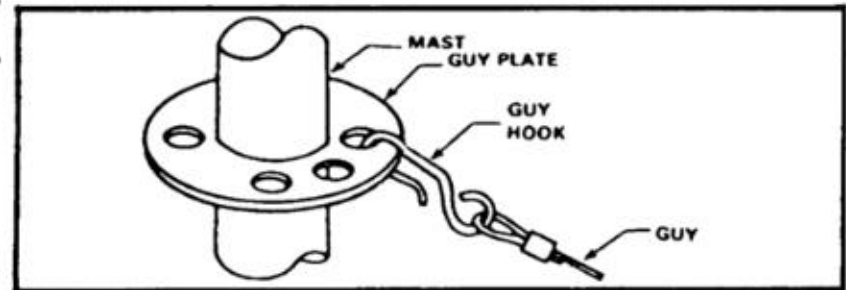
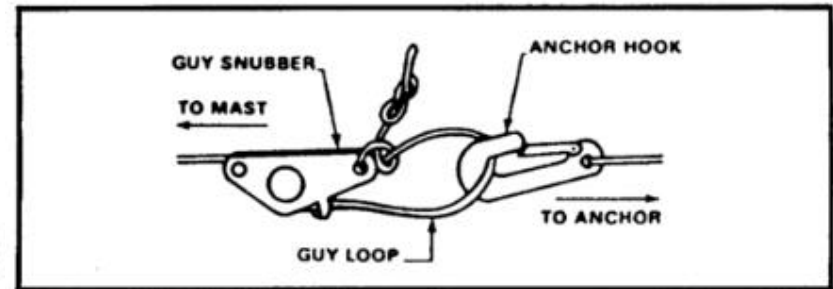
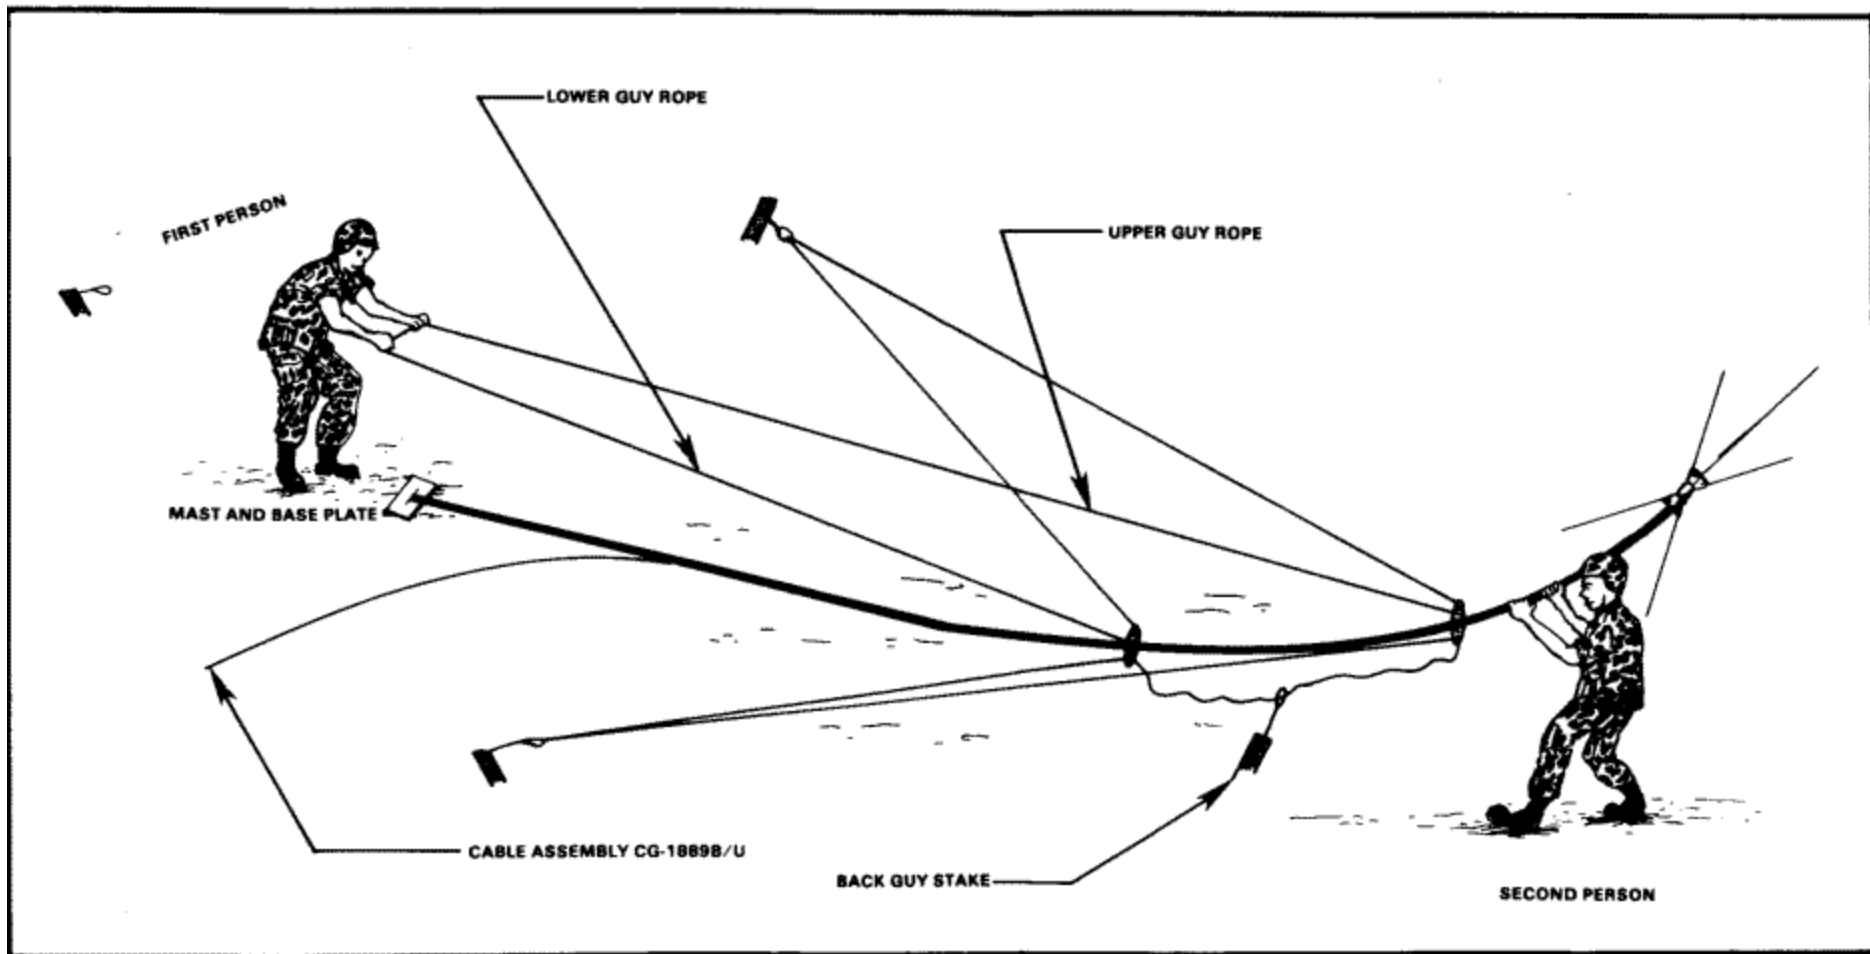

Figure 3-5. Attaching guy hooks to guy plate.
Figure 3-6. Attaching guy loops to ground anchor.
Figure 3-14. Erecting antenna group OE-254/GRC.
3	<p>Connect the guys.</p> <p>a. Attach the hooks of the lower guy assemblies (color coded blue) to the lower guy plate (Figure 3-5).</p> <p>b. Extend the guy assemblies to the side and back anchor hooks and attach the guy loops (Figure 3-6).</p> <p>c. Attach the hooks of the upper guy assemblies (color coded red) to the upper guy plate (Figure 3-5).</p> <p>d. Extend the upper guy assemblies to the side and back anchor hooks and attach the guy loops (Figure 3-6).</p> <p>e. Make sure that the mast assembly is laid out straight and crosses beside one guy stake (the back guy stake, Figure 3-14).</p> <p>f. Pull the upper and lower guys on each side tight (Figure 3-7) and secure them (Figure 3-8). Make sure the mast assembly is not pulled out of line.</p> <p>g. Lay the two bottom (upper and lower) guys along one of the tightened side guys and adjust them to the same length. Attach the bottom guy ropes to the back guy stake (Figure 3-14).</p>
- (1) Installer—near the baseplate assembly in line with the far guy stake holding the free guys (Figure 3-14).
- (2) Assistant—at the top holding the antenna at shoulder height.